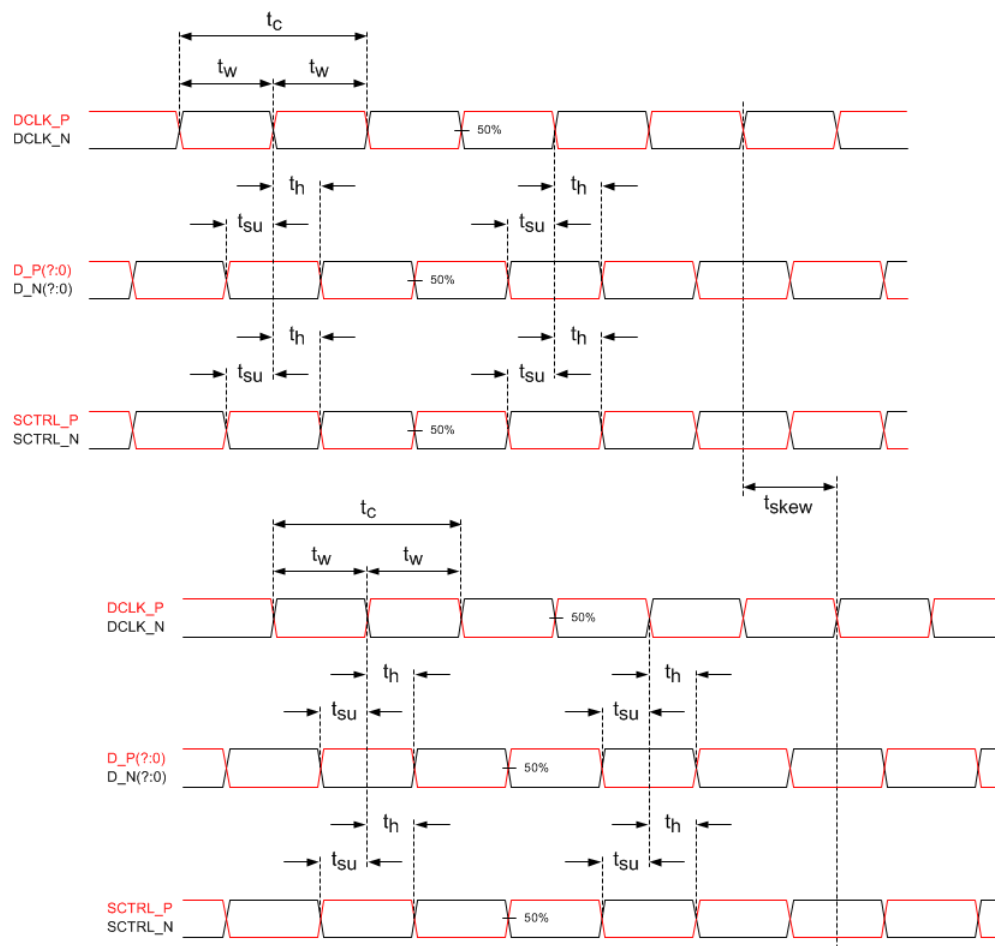

图 6-5. Timing Requirements
- (7) See LVDS Timing Requirements in 节 6.7 and 图 6-5.
(1) See 图 6-5 for timing requirements for LVDS.
(2) Channel A (Bus A) includes the following LVDS pairs: DCLK_AN and DCLK_AP, SCTRL_AN and SCTRL_AP, D_AN(15:0) and D_AP(15:0).
(3) Channel B (Bus B) includes the following LVDS pairs: DCLK_BN and DCLK_BP, SCTRL_BN and SCTRL_BP, D_BN(15:0) and D_BP(15:0).
- $R_{\text{ARRAY-TO-CERAMIC}}$ = Thermal resistance of package (specified in Figure 6.5) from array to ceramic TP1(°C/Watts).